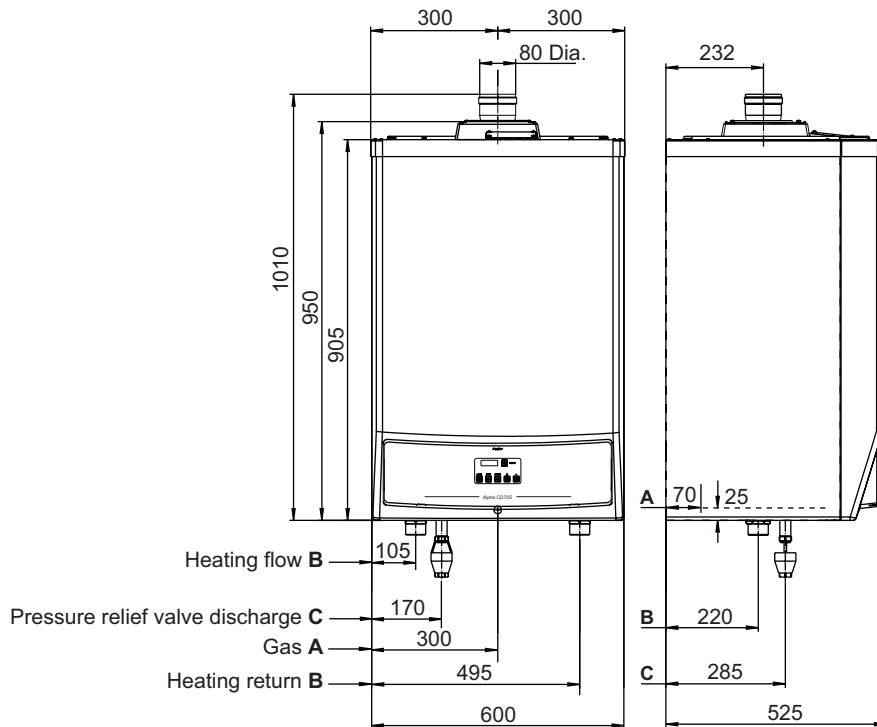

Fig. 14
4.2 DIMENSIONS and CONNECTIONS- Fig. 14
4.4 CONNECT THE PIPEWORK - Fig. 14